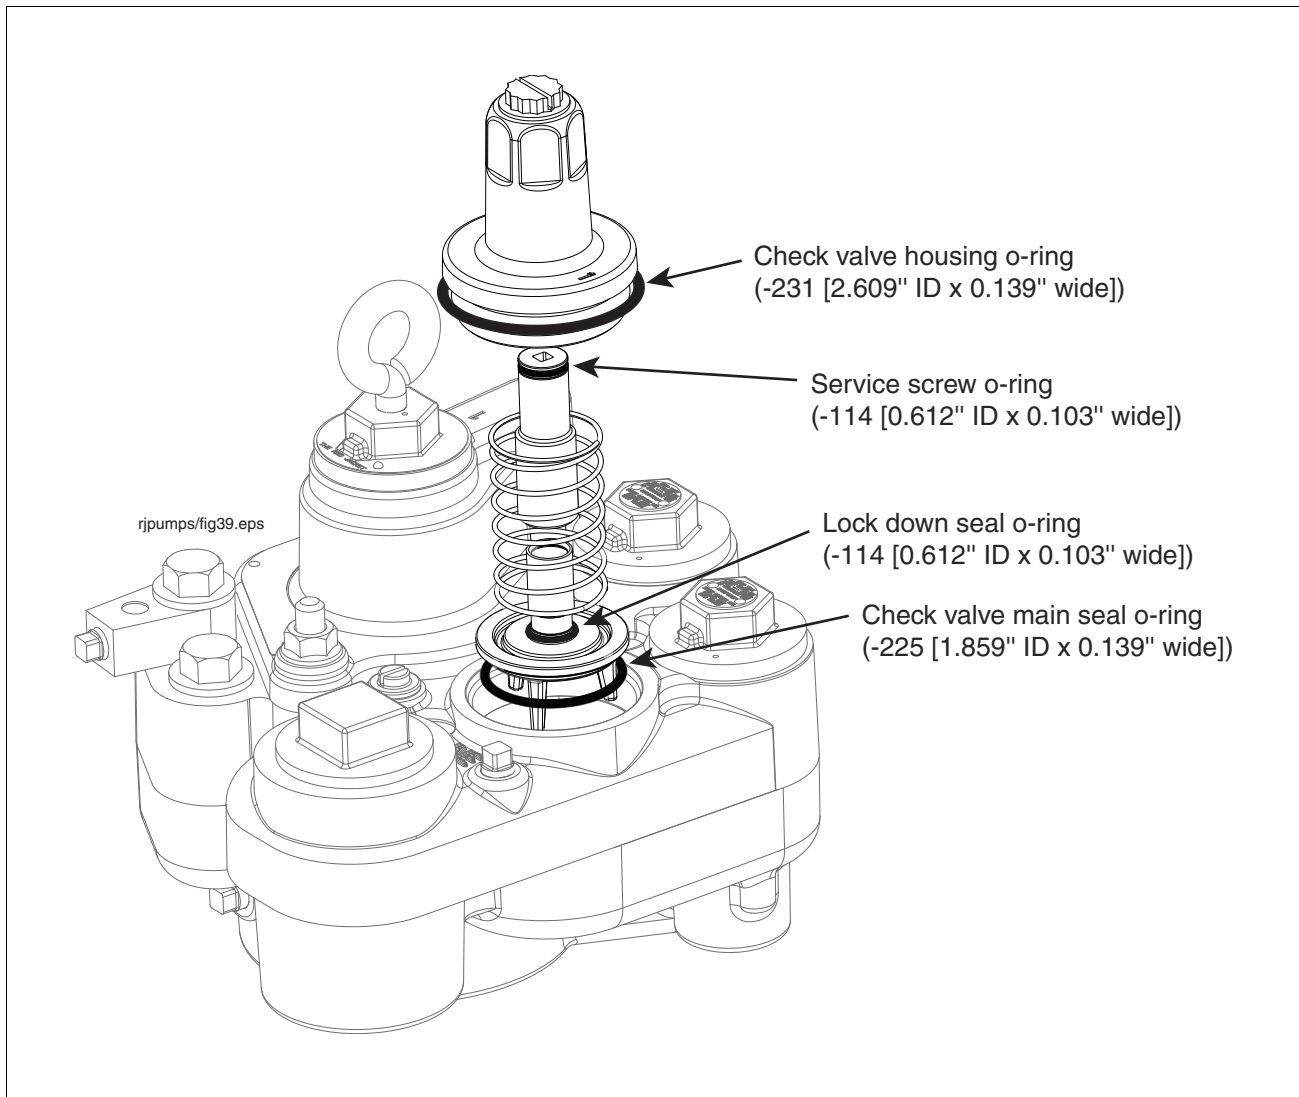

Figure 28. Inserting Check valve assembly into manifold
6. With its lubricated o-ring in place, insert the check valve onto its seat in the manifold, and place the new spring over the check valve (see Figure 28). Place the check valve housing with o-ring over the spring and check valve and screw it in hand tight. Torque the housing to 40 - 50 ft-lbs (54 - 67 N•m).